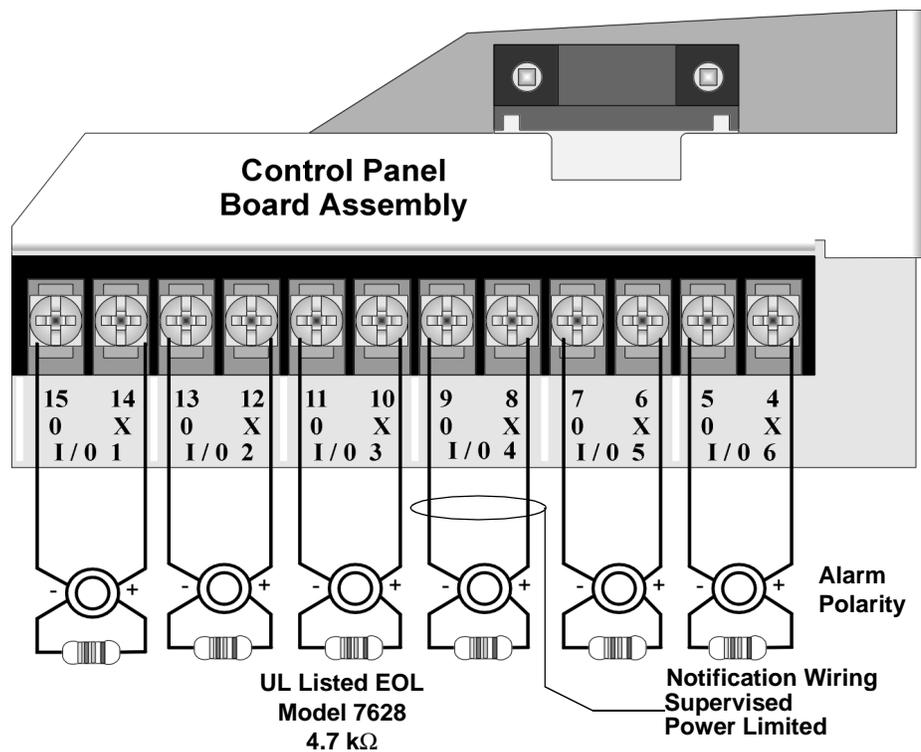

Figure 4-37 Class B Notification Appliance Circuit Wiring
1. Wire Class B Notification appliances as shown in Figure 4-37.